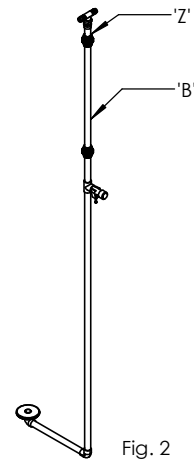

Fig. 2
- Reassemble the Diffuser pipework with supplied Diffuser extension pipework 'B' and Hosetail assembly 'Z' (Fig. 2).